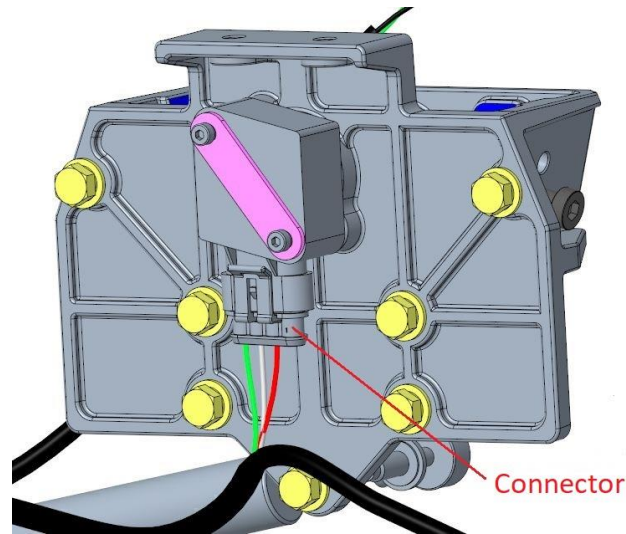

Fig. 5
1. Use a 3 mm Allen wrench to remove the screw (17), the spring washer (16), and the potentiometer pad (15) by rotating counterclockwise (the screw comes with thread locker when released. If you have difficulty in removal, slightly heat the screw with an electric heat gun first).
2. Disconnect the potentiometer wire harness connector (see Fig. 5 and 6 below).
3. Remove the potentiometer (14) from the mount (13) and the shaft (18).